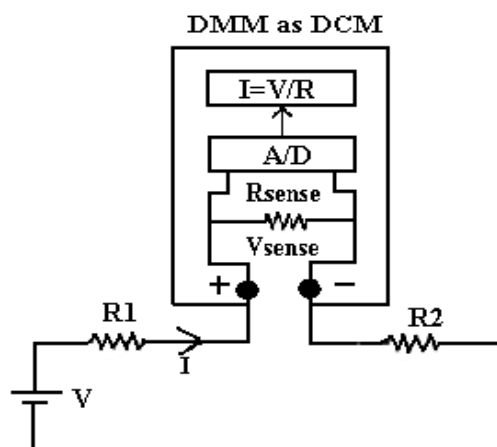

Fig 2 CIRCUIT DIAGRAM OF MULTIMETER IN CURRENT MODE
The working of Digital Multimeter can be explained with the help of resistive circuit which has two resistor (R_1 and R_2) connected in series to the power supply with some voltage (V). Figure 2 shows the circuit arrangement of multimeter in current mode. Note the difference in usage of DMM in voltage and current mode.